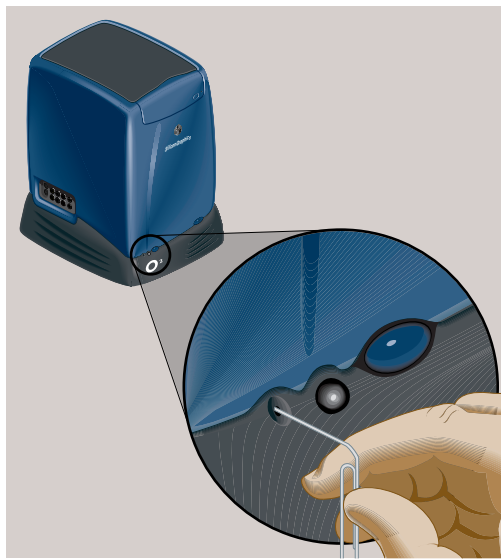

Figure 4-5 Pressing the Reset Button
1. Use a pen tip or an unwound paper clip to press the **Reset** button located on the front panel (Figure 4-5).